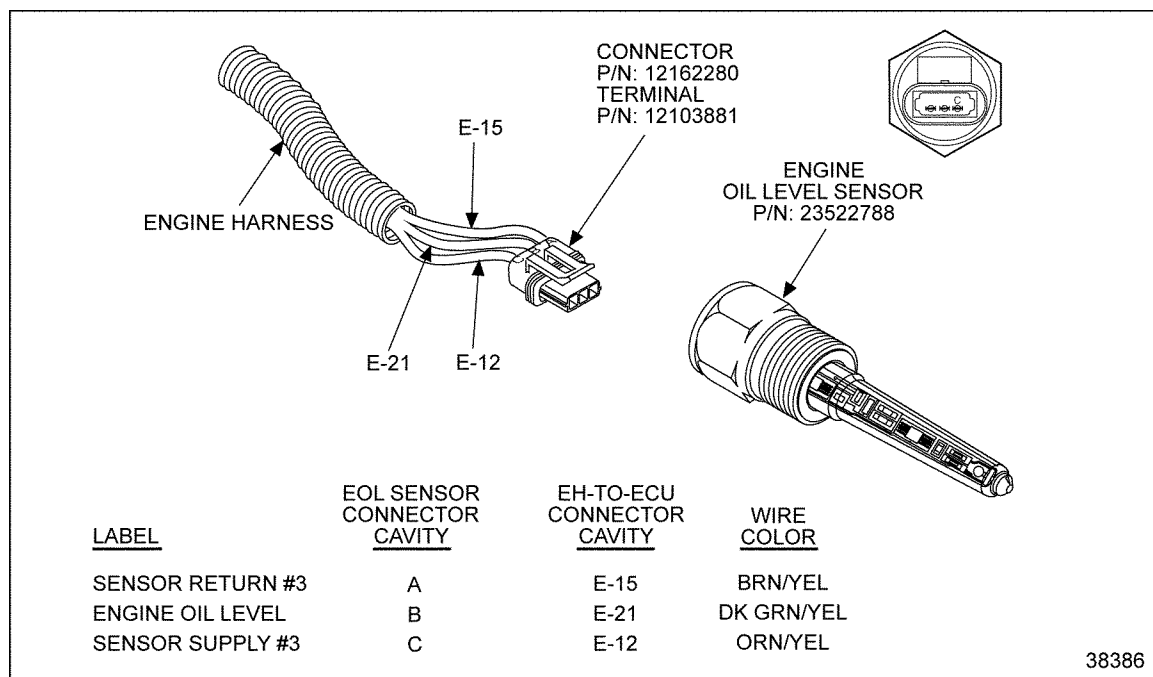

Figure 71-3 Oil Level Sensor
2. Insert the jumper wire between cavities B and C. See Figure 71-3.
- 5. Measure resistance between cavity A and C , and again between cavity A and B of the sensor connector. See Figure 71-3.
2. Measure resistance with the jumper still plugged in, between cavity E-21 and E-12. See Figure 71-3.